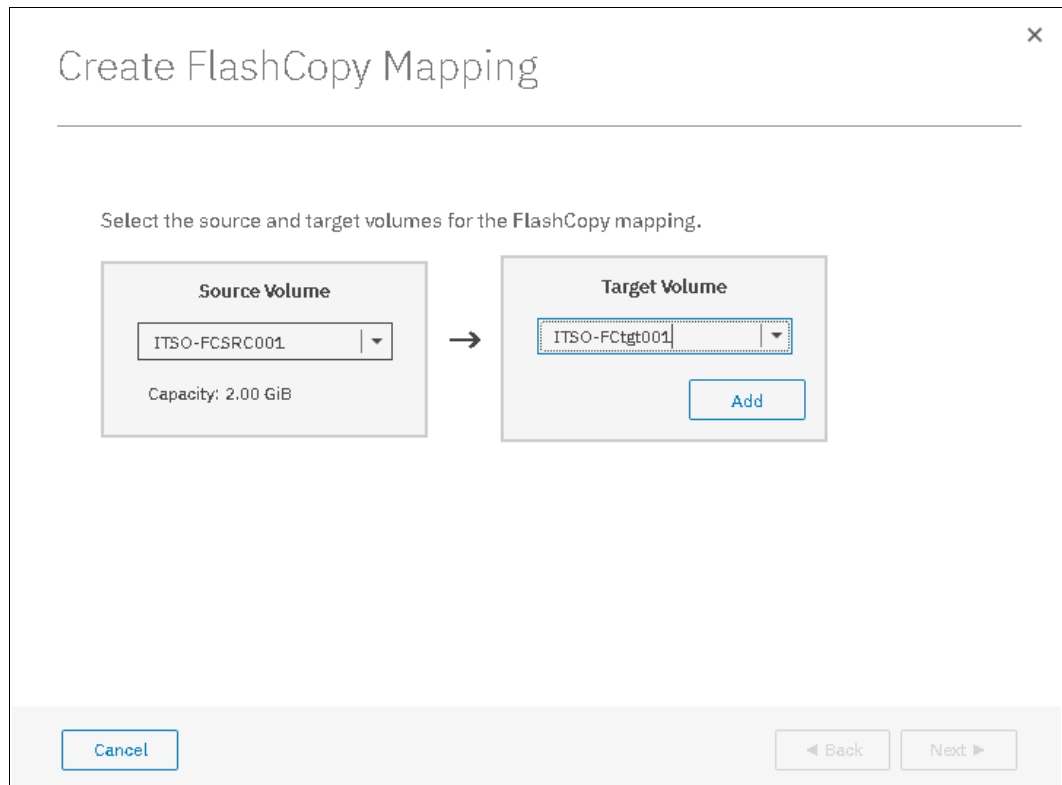

Figure 10-16 Create a FlashCopy Mapping by using an existing target volume
2. The Create FlashCopy Mapping window opens (see Figure 10-16). In this window, select the target volume and then, click **Add**.